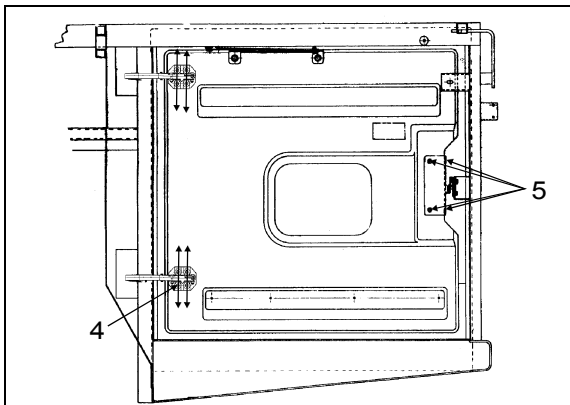

FIGURE 74: ENGINE COMPARTMENT R.H. DOOR
8. Loosen screws (4, Fig. 74).
6. Adjust the door in accordance with the required distance between exterior finishing parts (Fig. 74).
8. Adjust the door position according to the distance required between exterior finishing parts (Fig. 74).